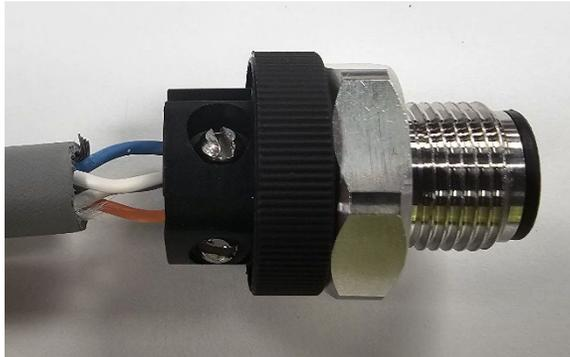

Figure 11
- [10] Repeat for all four wires. (Figure 11)